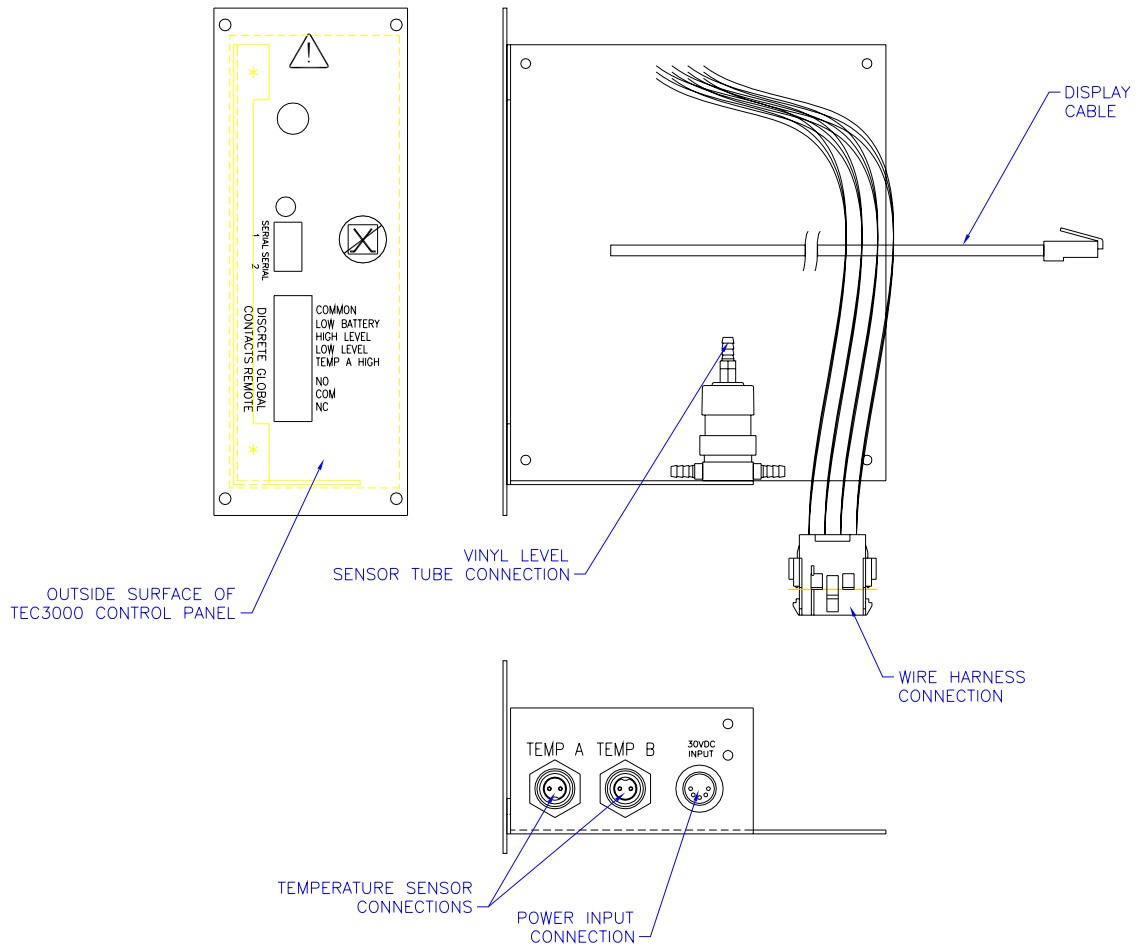

**Figure 2, FRONT PANEL DETAIL XLC 500/1200 FIRST GENERATION (ROUNDED CORNER CABINET)**
7. Disconnect the display cable from the back of the display panel. Reference Figure 2.